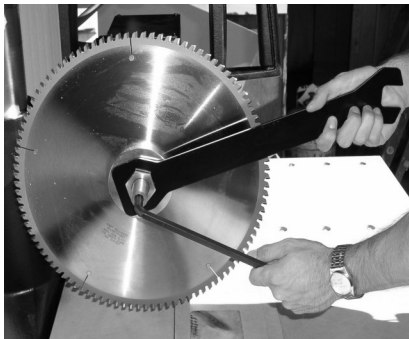

FIGURE 1
3. Place the arbor collar, recessed sides against the blade, arbor nut and tighten securely. ( See figure 1)